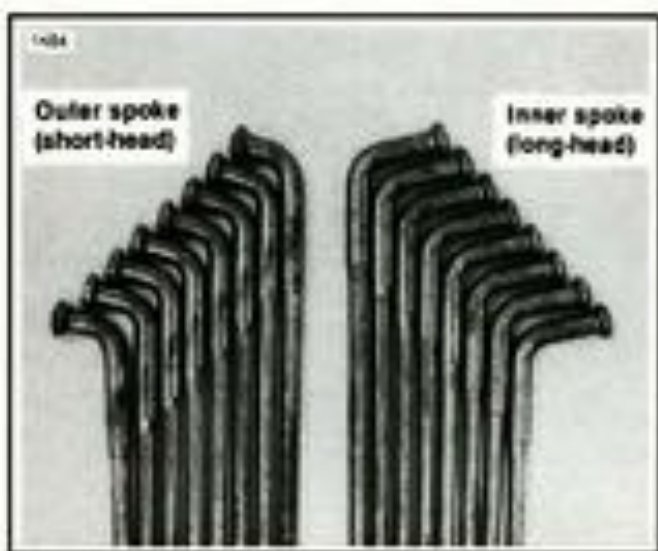

Figure 2-19. Spoke Identification
1. See Figure 2-19. Divide spokes into 2 groups. Inner spokes have long heads, outer spokes have short heads. There are also fine and coarse threaded